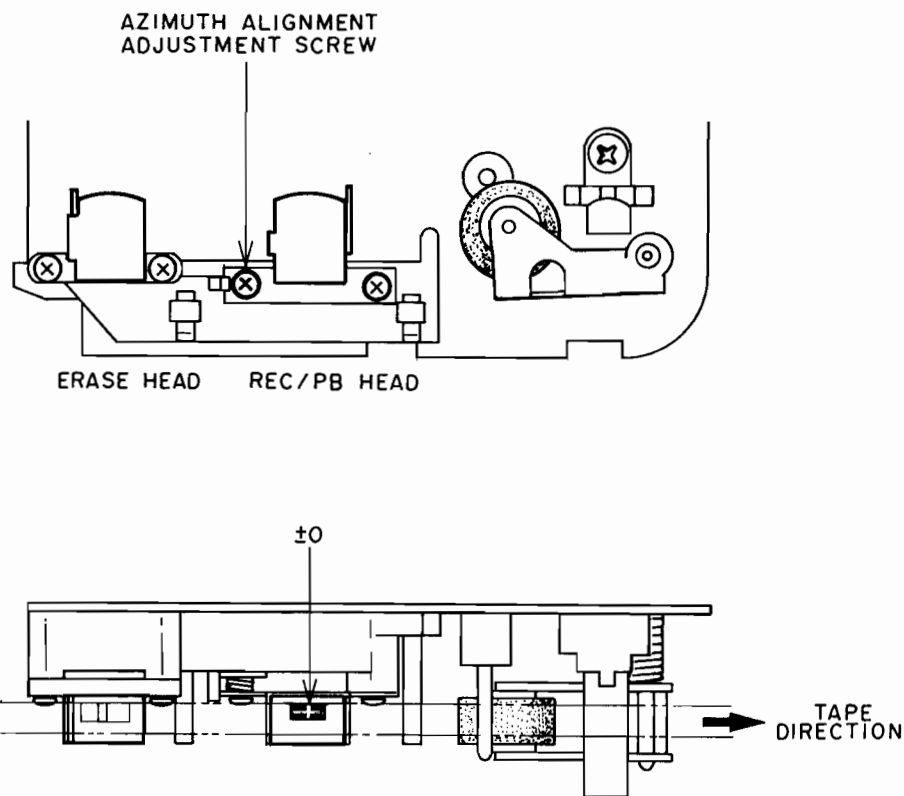

Fig. 9 Head Adjustment
AZIMUTH ALIGNMENT (Refer to Fig. 9)
a) Playback a 10 kHz pre-recorded cassette azimuth alignment test tape (TF-106CH) and adjust screw shown in Fig. 9 to obtain maximum output on